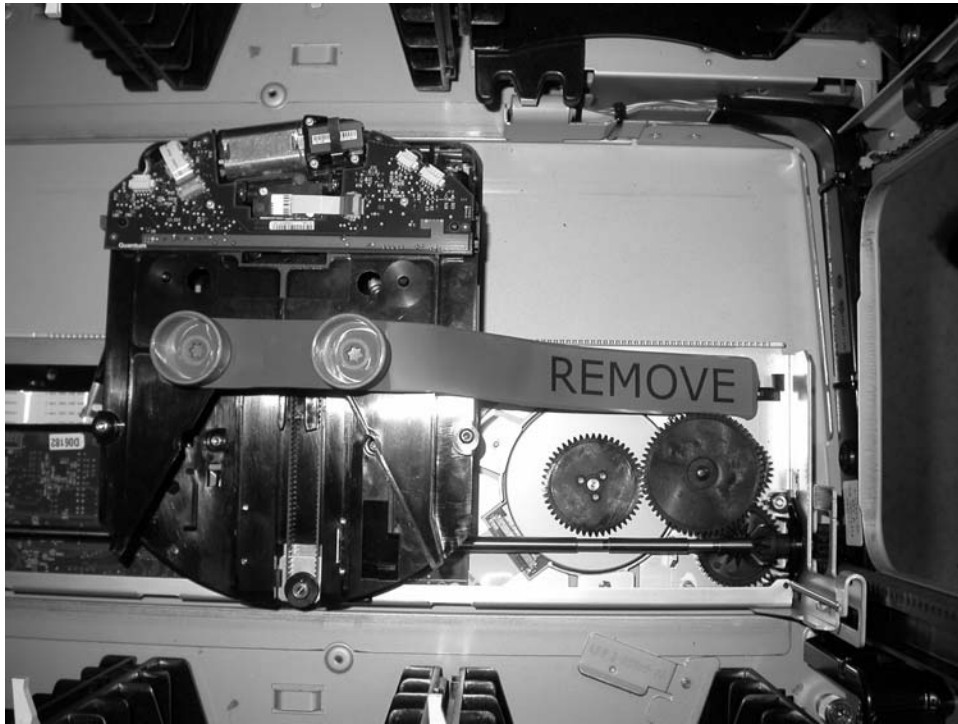

Figure 4-1. Original-style picker with internal packaging material
- a. For the original-style picker, remove the fastening strap (**1** in Figure 4-1) across the top of the picker packaging material.
- b. Remove the cardboard packaging material (**2** in Figure 4-1), the foam packaging material (**3** in Figure 4-1), and the small cardboard packaging material (not shown in picture).